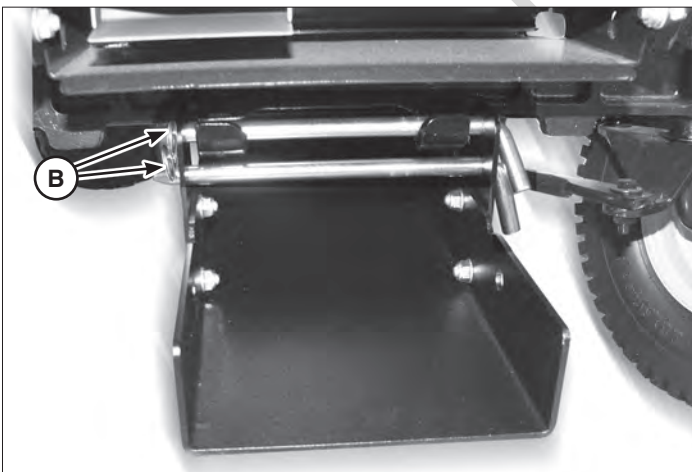

Figure 6
3. Secure both latch rods with hair pins (**B**, Figure 6).